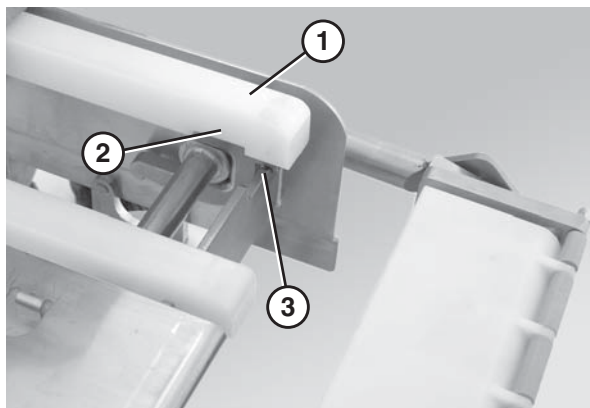

Figure 24
1. Position the wear strips (Figure 24, item 1) on the frame.
2. Make sure the slots in the wear strips (Figure 24, item 2) line up properly with the frame slots (Figure 24, item 3).